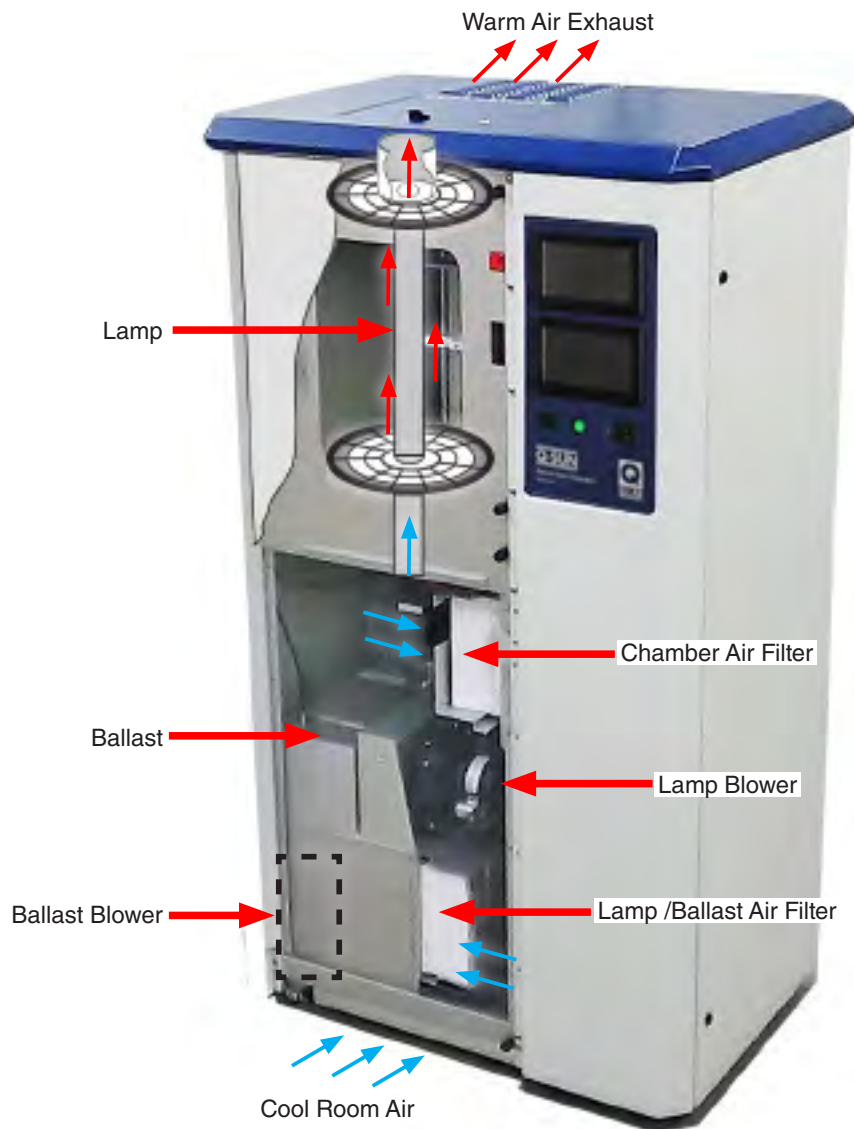

Figure 7.3: Lamp cooling system schematic.
- A system of air filters, ducts, and blowers circulates room air through the tester to cool heat-generating components including the ballast and the xenon lamp (Figure 7.3).